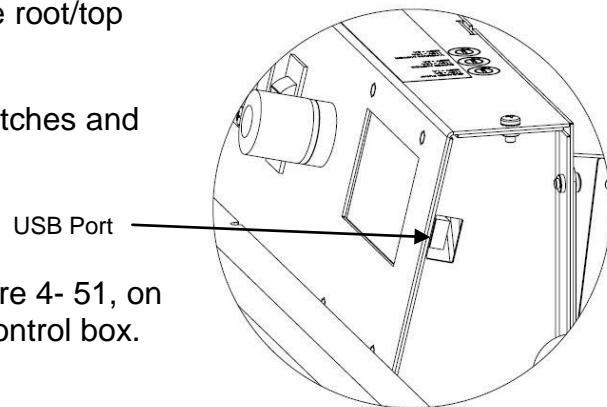

Figure 4- 51
5. Locate the USB port, shown in Figure 4- 51, on the buffer brush motor side of the control box.